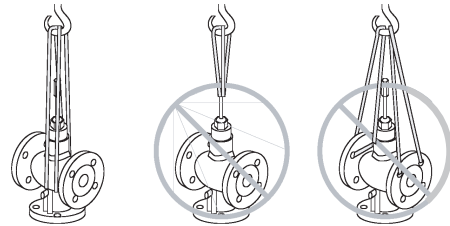
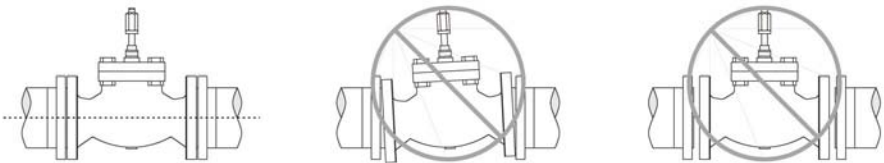

Fig. 1. Proper hoisting of VG Valves.
Fig. 2. Basic pipe orientation.
The valves are to be installed by skilled personnel and in strict accordance with the installation instructions and local regulations. (See Fig. 1 for proper hoisting method.) Honeywell assumes no responsibility for damages or injuries resulting from non-compliance with installation instructions or standard good practice when mounting, operating, or maintaining the valves, even if not explicitly mentioned in the installation instructions. (See Fig. 2 for basic pipe orientation.) Observe all safety practices when working with steam systems.
1. Hoist valve by its body only. Do not lift by stem, bonnet, flanges, or flange holes. (See Fig. 1.)